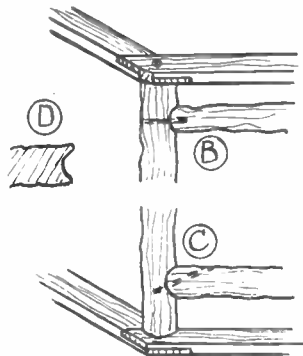

Fig. 2
The detail sketch, Fig. 2, will now be helpful. Between the vertical posts nail three horizontal rails, cut from 1½ in. rustic wood. Top and bottom rails are positioned 6 ins. up or 6 ins. down, the intermediate rails some 3 ft. above ground level. No rails are fitted between the two posts intended for the entrance to the summer house, of course. The rails are straight nailed through the posts as at (B) or skew nailed to the posts as at (C), according to circumstances. Fit each separate rail across and cut it a little longer than the distance, to enable the ends by being sawn and chiselled to a